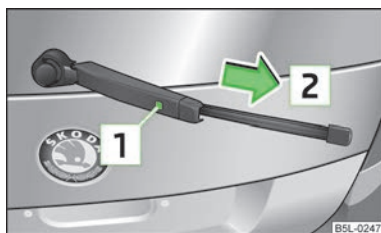

Fig. 38
- > Fold the windscreen wiper arm away from the windscreen and position the wiper blade at a right angle to the wiper arm » Fig. 38.